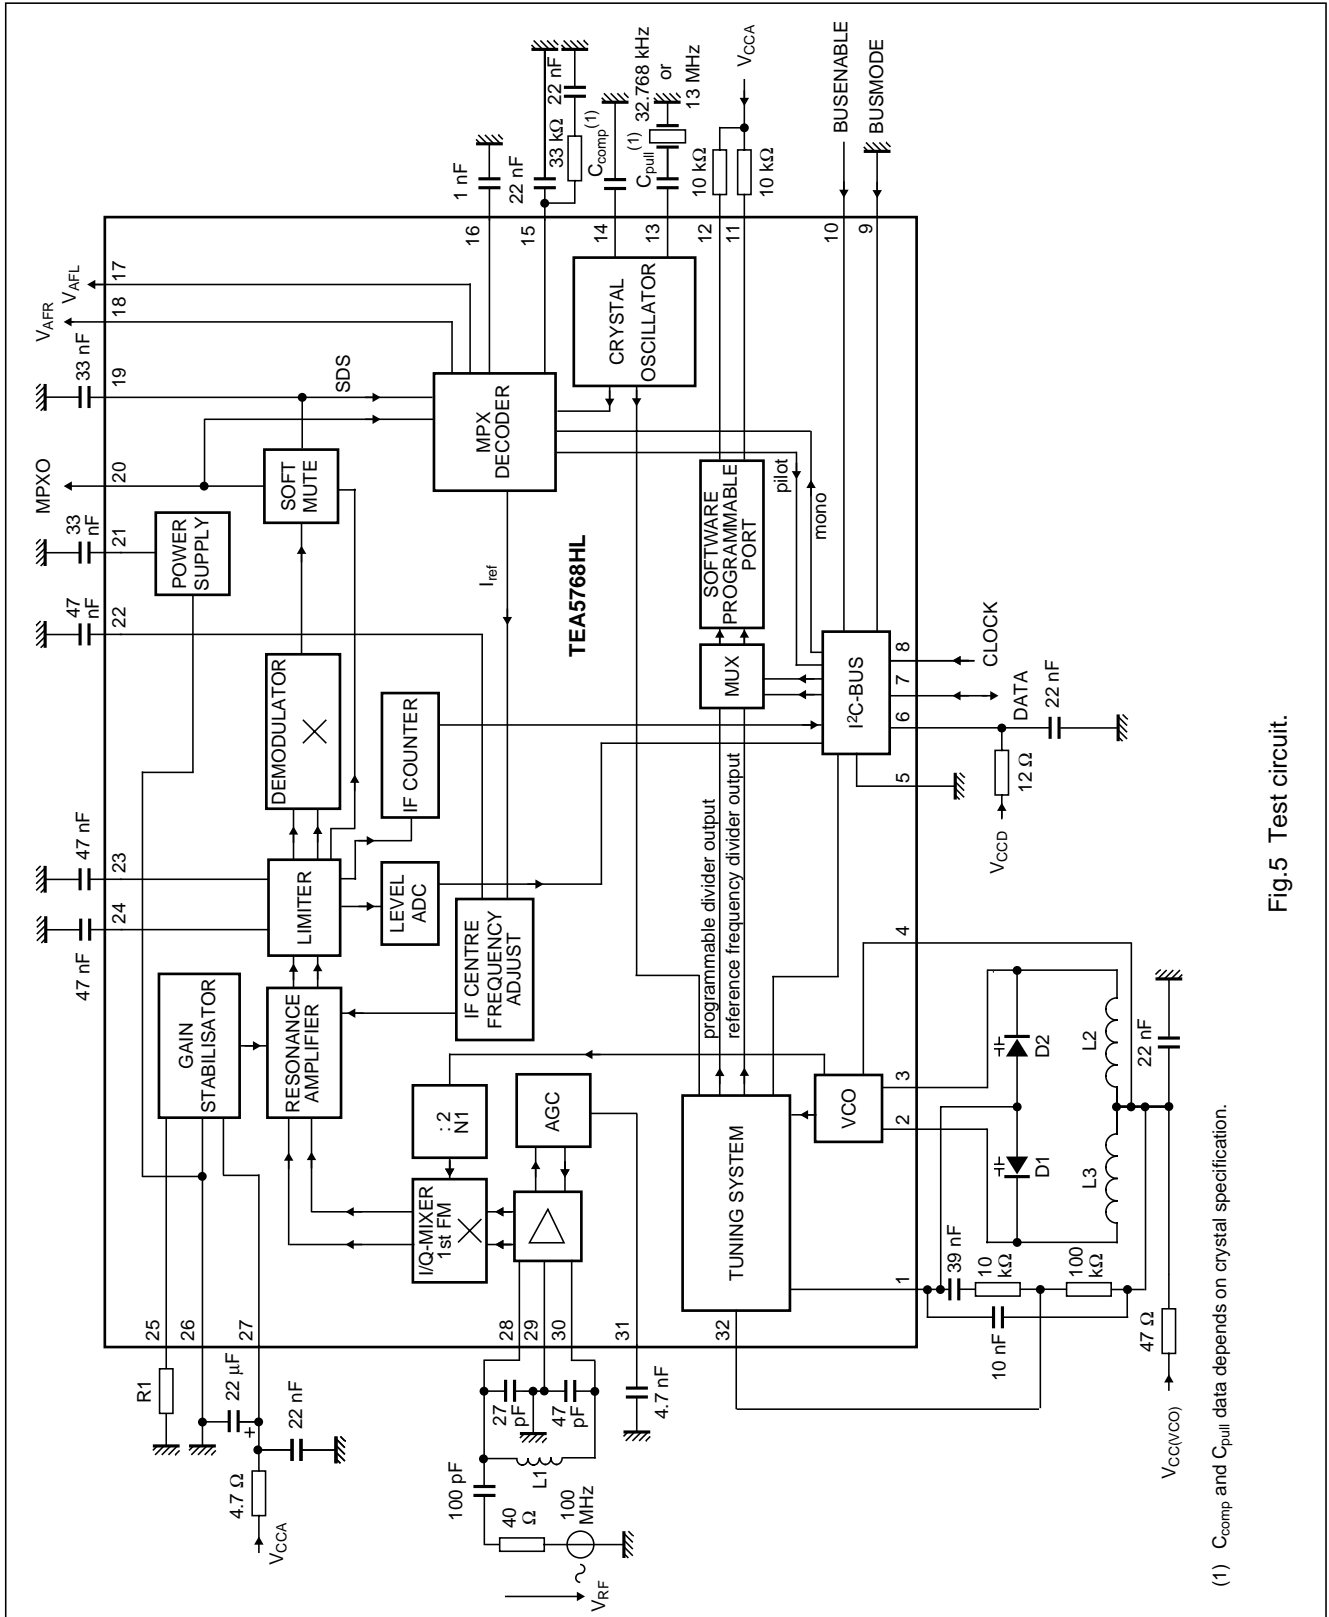

Fig.5 Test circuit.
- V_{RF} in Fig.5 is replaced by $V_{RF1} + V_{RF2}$. The radio is tuned to 98 MHz (HIGH side injection).